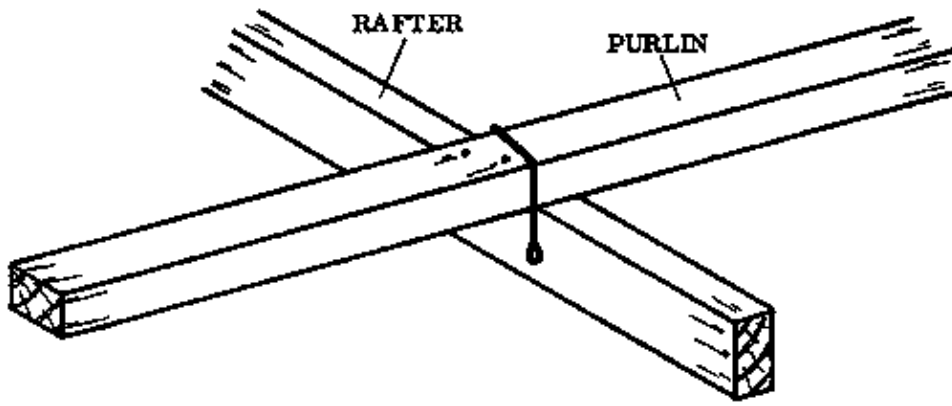

Fig. 1
– **PURLINS:** Tie all the purlins to every rafter, preferably with iron rods. These are shaped as shown in Fig. 1, by hammering the rod flat on both ends and drilling holes in the ends, then bending the rod to a U-shape.